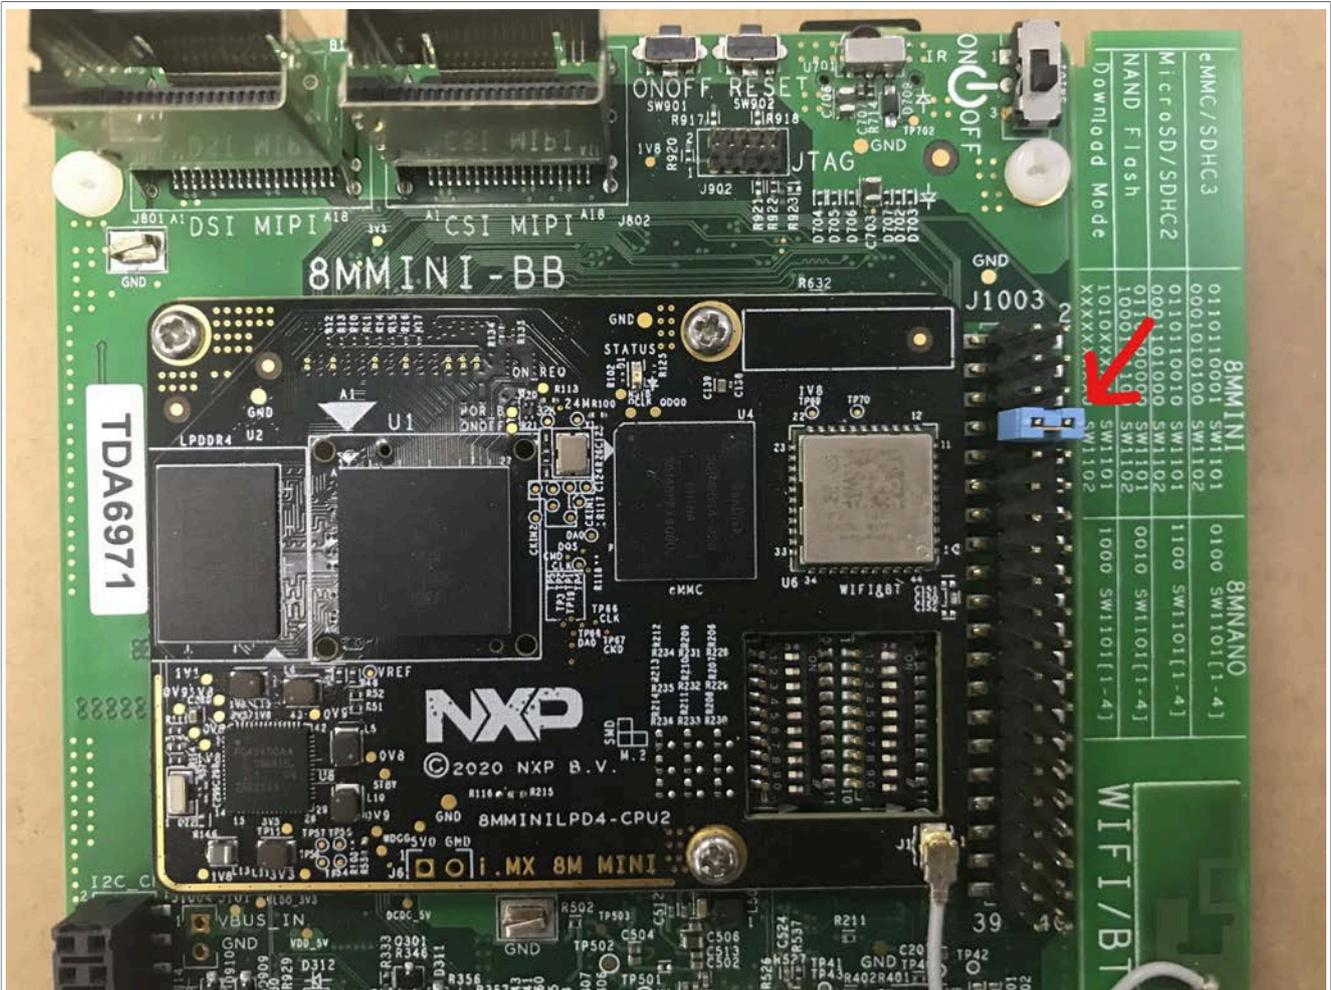

Figure 10. Connections for GPIO test on i.MX 8M Mini LPDDR4 EVK board
- For GPIO test on i.MX 8M Mini LPDDR4 EVK, connect pin7 and pin8 of J1003 by a jumper as shown in Figure 10.